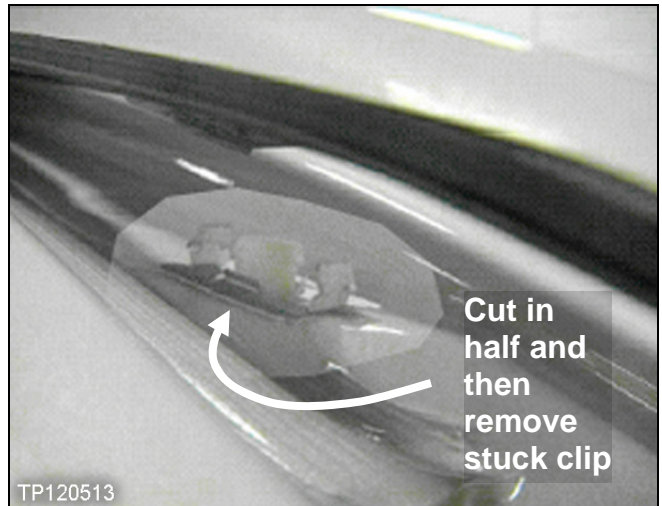

Figure 7
CAUTION: Do not pull off the clip from the plastic rivet. Cut the clip in two (2) pieces, and then remove from the plastic rivet (see Figures 7, 8, and 9).